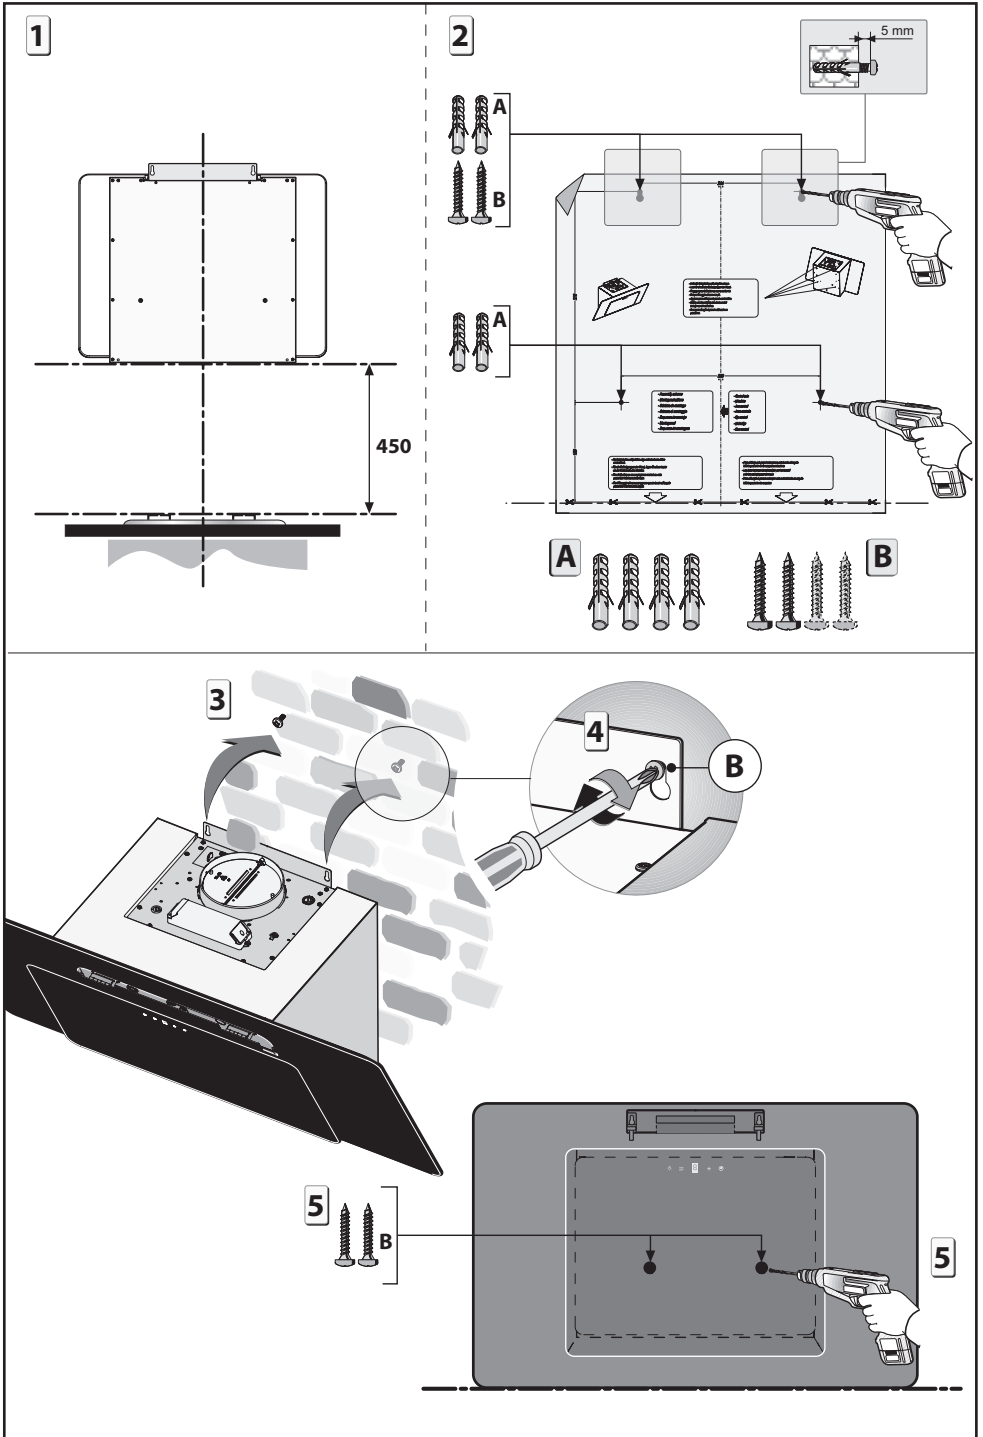

Fig.3
• Fixing to the wall (Fig.3):
- Mark the position of the lower side of the hood on the wall figure 3 - phase 1 (taking into account the minimum distance required from the hob).
- Mark and drill fixing holes figure 3 - phase 2.
- Fasten the 4 anchors and the 2 screws **A-B** without fully tightening them figure 3 - phase 2.
- Position the appliance on the wall and permanently secure it by pulling the 2 screws **B** figure 3 - phase 3-4 and the 2 locking screws **B** figure 3 - phase 5.